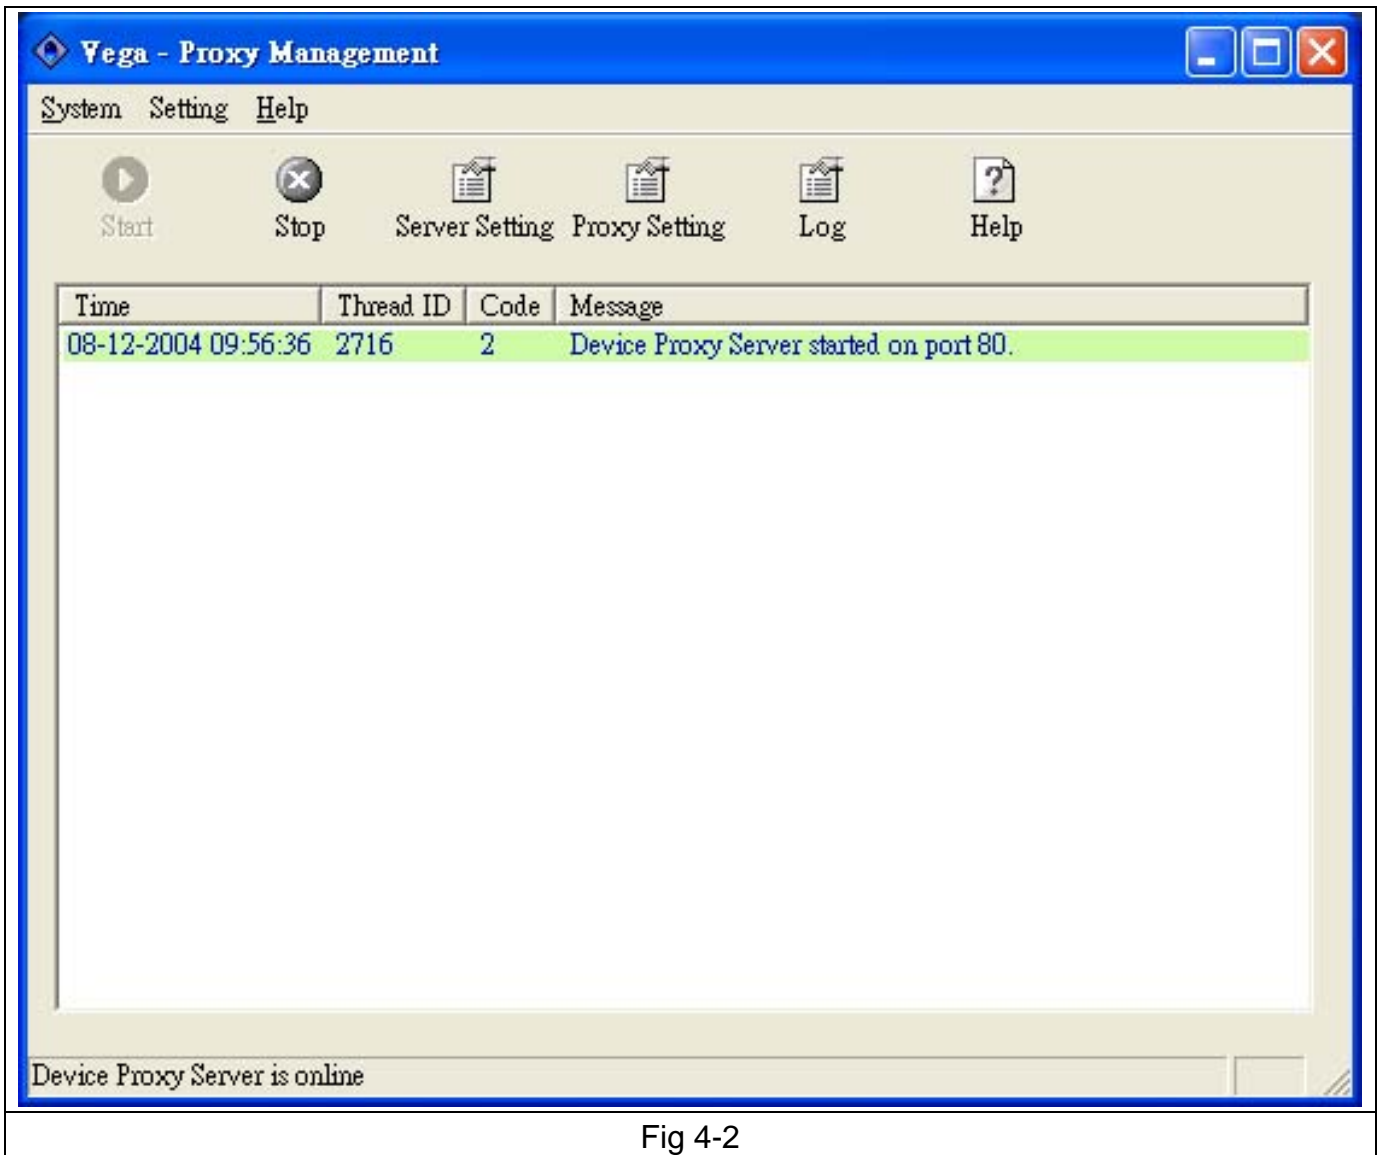

Fig 4-2
- C. The program will show.(Fig 4-2)